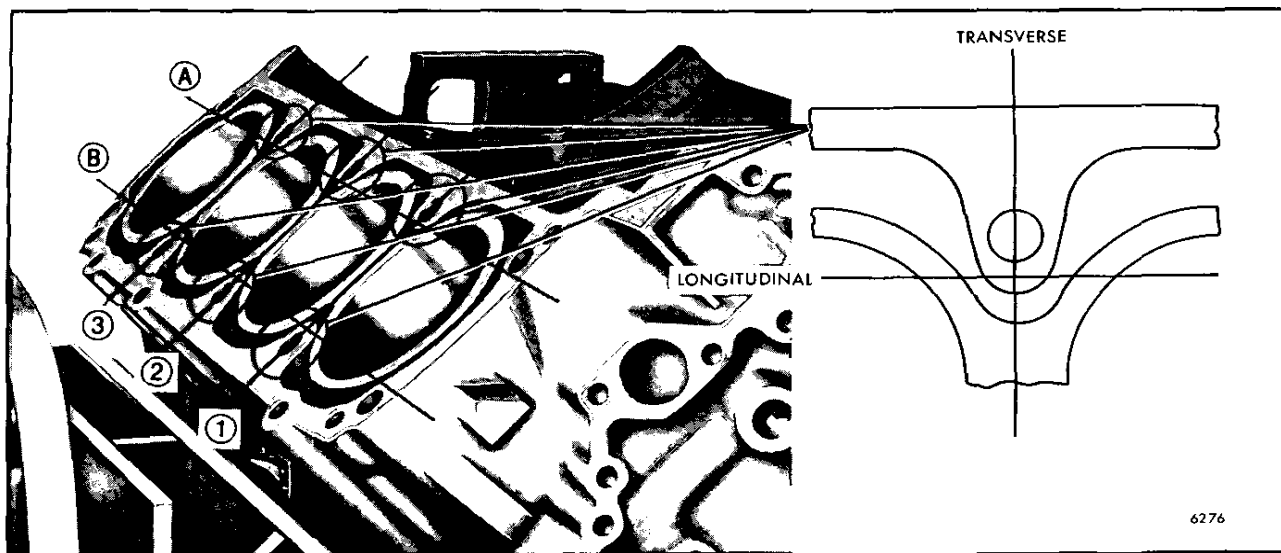

Fig. 8 - Flatness Check Locations
- Perform a flatness check in the locations indicated in Fig. 8.